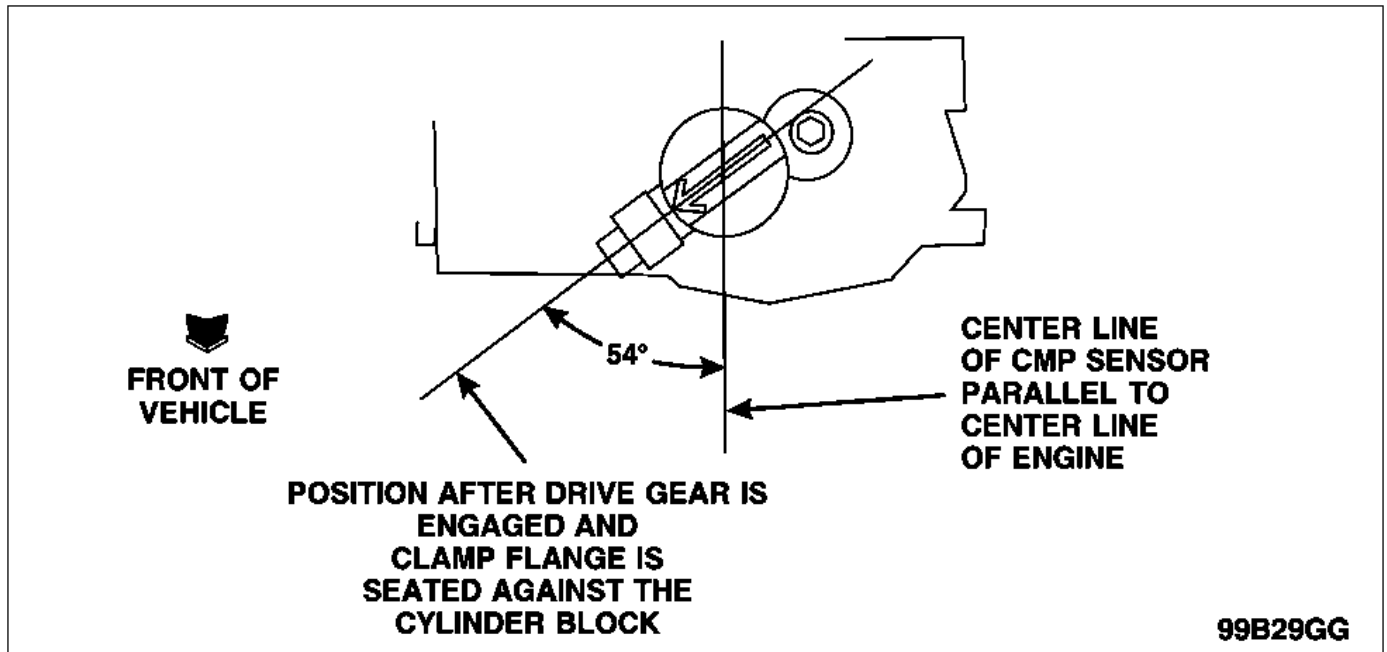

FIGURE 33
- Insert the camshaft synchronizer assembly in the front cover. Install the synchronizer assembly so that the arrow on the alignment tool is 54 degrees from the centerline of the engine. See Figure 33. This ensures that the CMP sensor electrical connector has proper clearance.